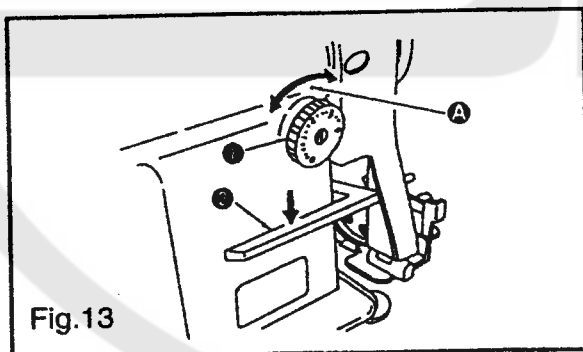

Fig.13
10.ADJUSTING THE STITCH LENGTH (Fig.13)